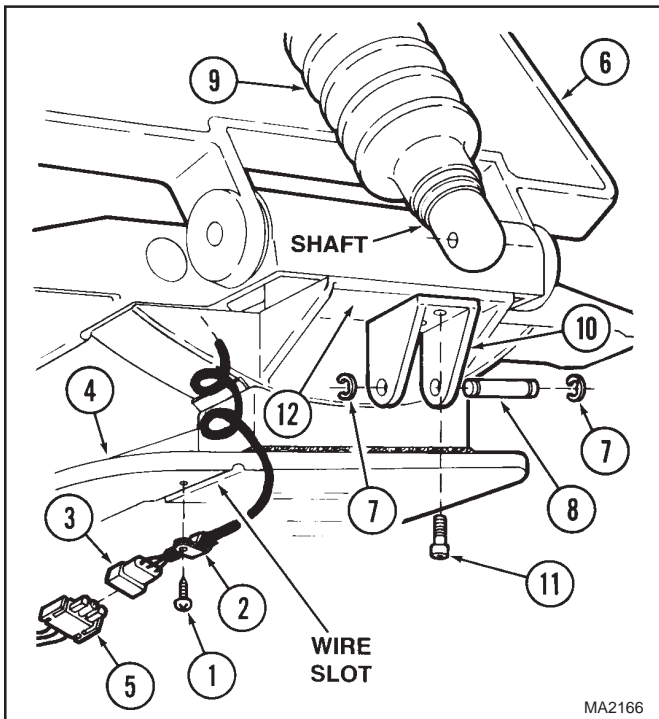

Figure 4-43. Foot Actuator Connection
- (44) Remove the straps or ropes and lower the back casting (1) until the shaft of back actuator (4) can be positioned on outer tube weldment (5).
- (45) Secure the shaft of back actuator (4) to outer tube weldment (5) with clevis pin (3) and two E-rings (2).
- (46) Install the back cover (Refer to para 4-2).
- (47) Install foot clevis (10, Figure 4-43) on seat casting (12) and secure with two screws (11).